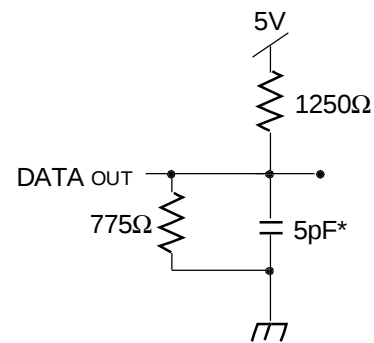

Figure 2. Output Test Load
1. Transition is measured $\pm 500\text{mV}$ from Low or High-impedance voltage Output Test Load (Figure 2).
1. Transition is measured $\pm 500\text{mV}$ from Low or High-impedance voltage with Output Test Load (Figure 2). This parameter is guaranteed by device characterization but is not production tested.
7. This parameter is determined to be device characterization, but is not production tested. Transition is measured ±500mV from steady state with the Output Test Load (Figure 2).